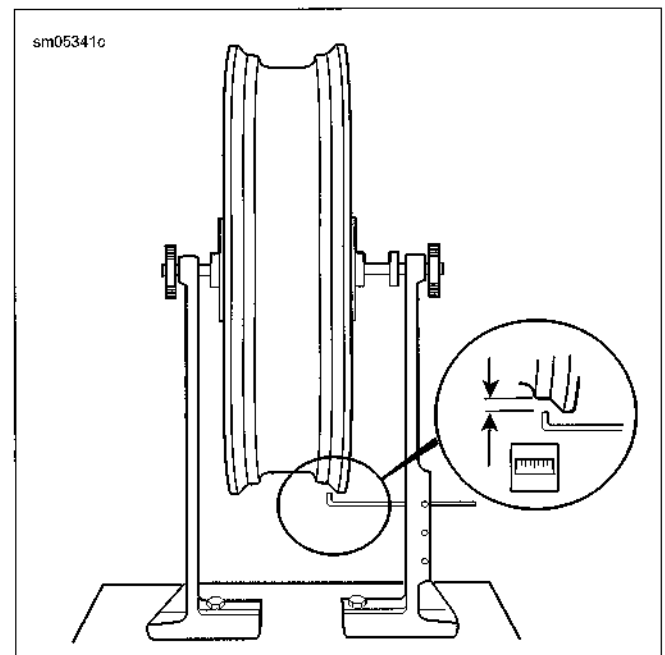

Figure 2-41. Radial Runout
1. See Figure 2-41. Point the gauge rod or indicator at the rim tire bead safety hump.